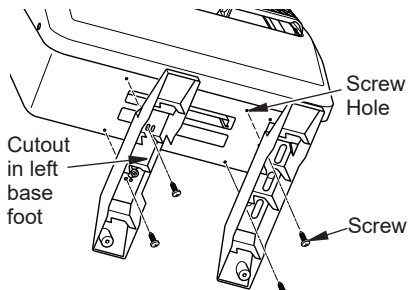

Figure 11 - Attaching Base Feet to Heater
2. Align screw holes in base feet to the bottom of the heater. Attach using Phillips head screws (provided) (see Figure 11).